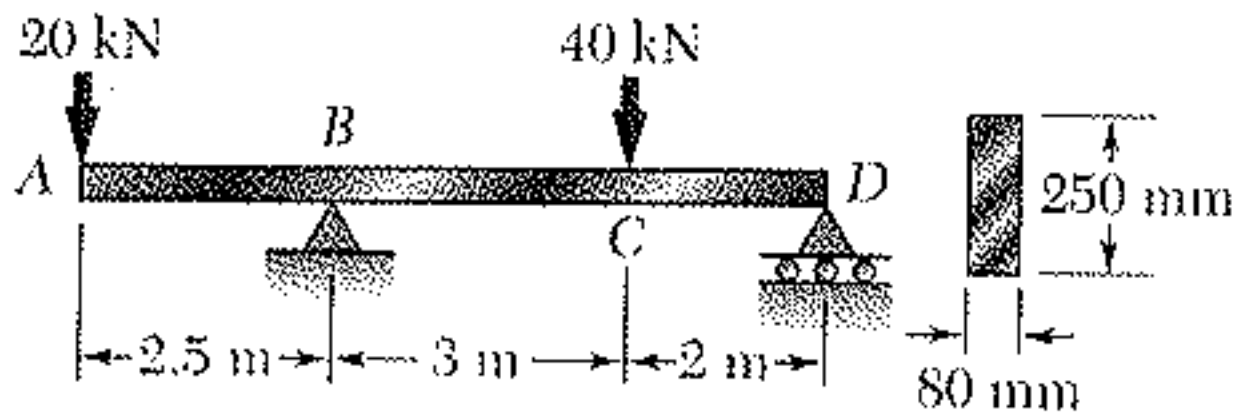

Figure 3
4. For the timber beam and loading shown in figure 3, draw the shear and bend-moment diagrams and determine the maximum normal stress due to bending.